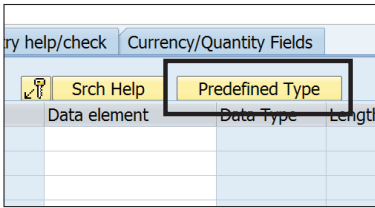

Figure 10.6 Predefined Type
- ▶ **DATA TYPE/LENGTH/DECIMAL PLACES/SHORT DESCRIPTION:** These fields are disabled by default and filled automatically based on the data element provided in the previous field. If you wish to maintain the data type, length, decimal places, and short description manually, click the **PREDEFINED TYPE** button (see Figure 10.6) and enter the details manually. Note that only limited functionality is provided for fields without data elements. These fields can't have foreign keys or fixed values defined. There is no **[F1]** help for these fields.